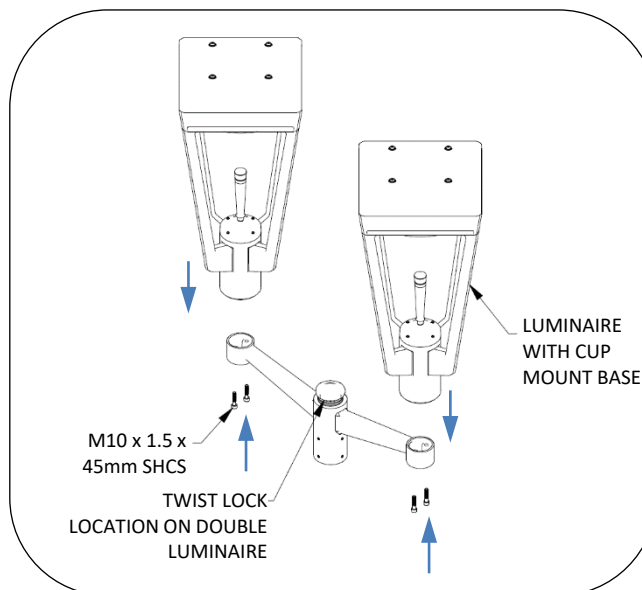

Fig. 5 – Install double arm bracket on pole
4. Install luminaire on cup mount, see Fig. 5. Front is labeled on asymmetric units.